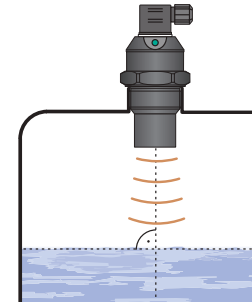

Fig. 1: Correct installation of the sensor, perpendicular to the liquid surface
a) The device is installed in a vertical position into the upper lid of the tank or reservoir using a lug, a fastening nut or a flange in such a way that the axis of the device is perpendicular to the surface level of the measured liquid (Fig. 1). Tightening of the level meter in the welding flange (or. by the fixing nut) is done by hand *. The device shall be installed in places with no risk of mechanical damage to the front of the sensor.